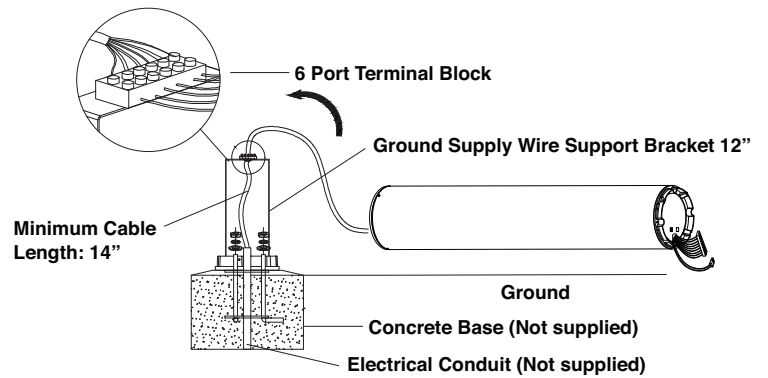

Fig. 7
5. Place bollard base plate over anchor bolts and tighten nuts securing the base plate to the foundation. (Fig 7)
6. As the wires shown on Fig 7 will not be disconnected during installation, so please double check to make sure they are properly connected after the base installation.